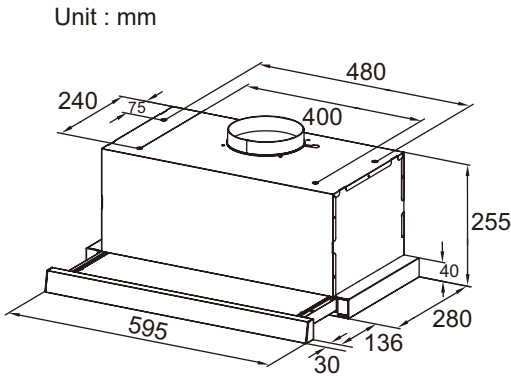

Fig.1
1. According to Fig.1 to make 4 holes at the corresponding positions on the cabinet where the range hood is installed.